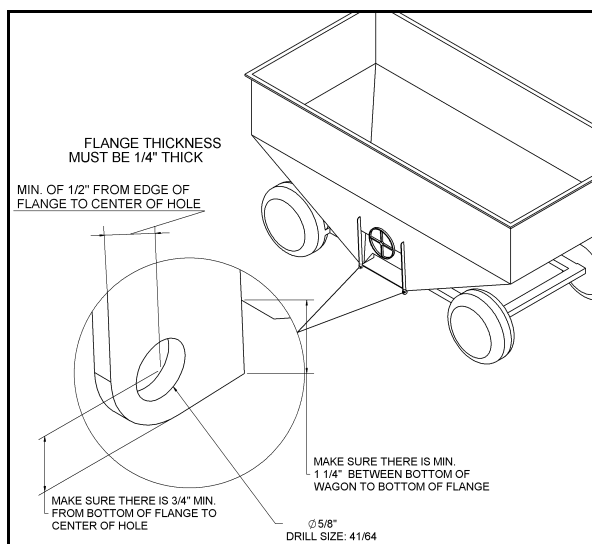

Figure 3.1 Option A
1. Using a drill bit sized for a 5/8" bolt, mark and drill holes (Figure 3.1) into side flanges on either side of gravity wagon discharge gate. These holes are to be used for mounting the discharge hopper.